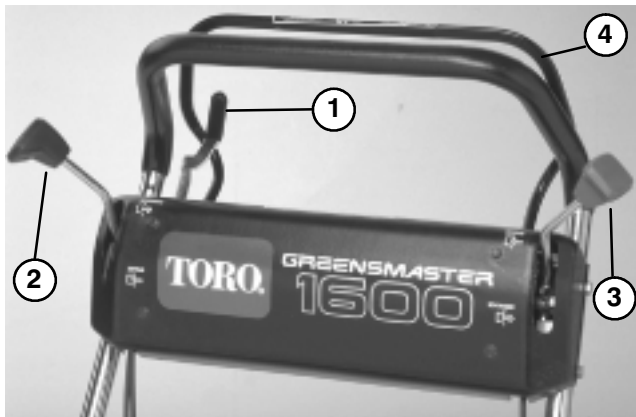
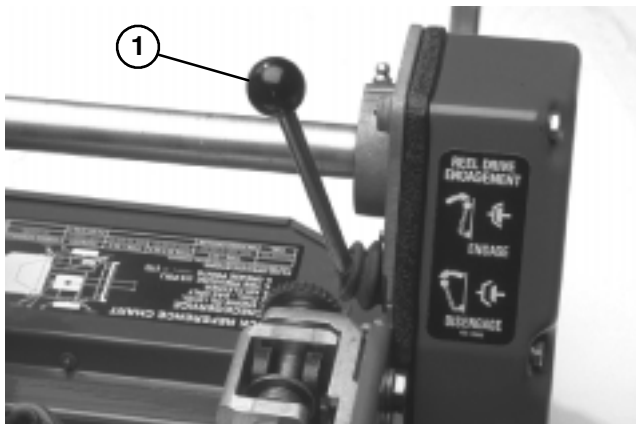

Figure 18
Figure 19
Traction Engagement Lever (Fig. 18) — Located on front right side of control panel. Lever has two positions: NEUTRAL and FORWARD. Pushing lever forward engages traction drive.
Operator Presence Control (Optional) (Fig. 18) — Located on rear of handle. Push control lever forward to engage. Lever must be engaged before engaging traction engagement lever or engine will stop.
Service/Park Brake (Fig. 18) — Located on left front side of control panel. Use brake to slow or stop machine. The brake can also be used as a parking brake. Pulling the lever back over center will set the parking brake. Brake must be released before traction drive is engaged.
Throttle Control (Fig. 18) — Located on rear right side of control panel. Lever connects to and operates throttle linkage to carburetor. Engine speed can be varied from 1600 RPM to 3600 RPM.
Reel Drive Engagement Lever (Fig. 19) — Located on right front corner of machine. Lever has two positions: ENGAGE and DISENGAGE. Pull up on lever to engage reel or push down on lever to disengage reel.
1. Make sure traction (Fig. 18) and reel drive (Fig. 19) levers are in DISENGAGED position.
4. Move throttle control (Fig. 18) to FAST position.